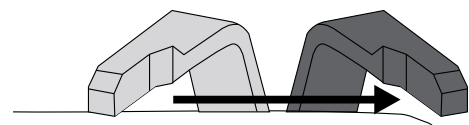

Figure 13 - Cold Start Choke Lever - OFF
7. After cold starting, as the engine starts and stabilizes, gradually move the choke lever back to the **OFF** position (see Figure 13 below).